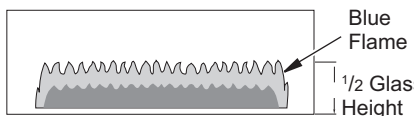
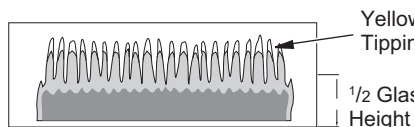

Figure 24 - Correct Burner Flame Pattern
Figure 25 - Incorrect Burner Flame Pattern
Figure 24 shows a correct burner flame pattern. Figure 25 shows an incorrect burner flame pattern. The incorrect burner flame pattern shows yellow tipping of the flame. It also shows the flame higher than 1/2 the glass panel height.
- If burner flame pattern is incorrect, as shown in Figure 25